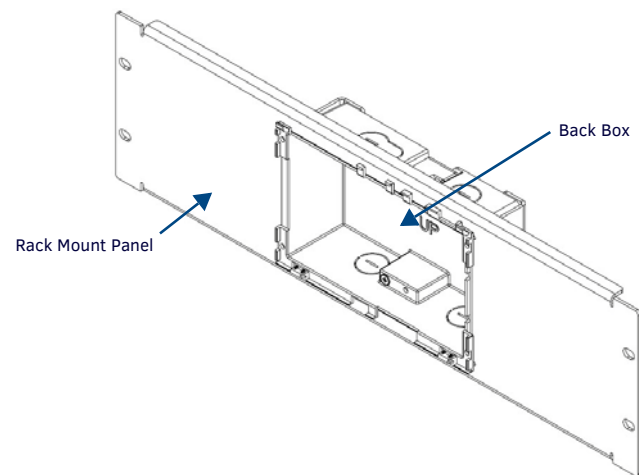

FIG. 4 FINAL ASSEMBLY OF THE MXA-RMK-07 WITH BACK BOX
4. With the Back Box anchored in the Rack Mount Panel (FIG. 4), you may now install the MXD-700 into the Back Box.